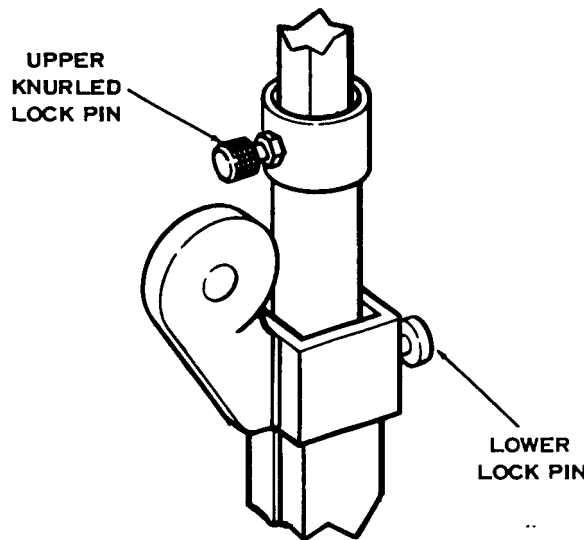

Figure 3
3. Raise the hoist by pulling the upper lock pin(Figure 3) and rotating it 1/4 turn left. The center shaft can be raised to 10 feet by turning the ratchet crank. When the desired height is reached, be sure the ratchet lock engages in a tooth on the cable drum to prevent accidental movement.
Pull and turn the lower lock pin(Figure 3). Continue cranking until the maximum height is reached.